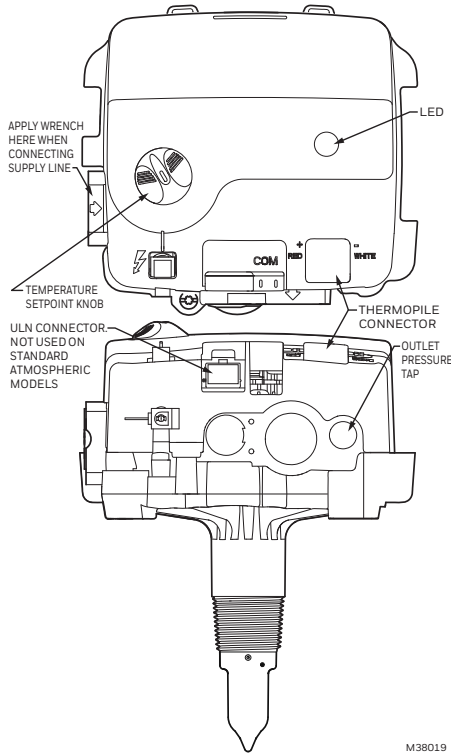

Fig. 5. Water heater controls and connections for illustration purposes. Please check appliance owner's manual for accurate connections.
8. Position compression fitting in pilot outlet and engage threads. See Fig. 5 for controls and connections. Turn until finger tight, then tighten one more turn with a wrench. Do not overtighten.
Connect control circuit to the water heater control using the connections shown in Fig. 5.
2. With burner operating, check the water heater control flow rate using the meter clocking method or check pressure using a manometer (pressure gauge) connected to the outlet pressure tap on the water heater control. See Fig. 5.